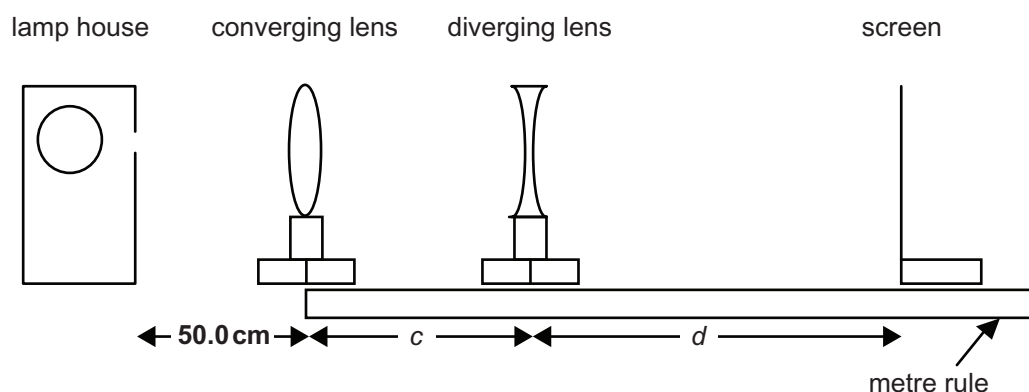

Fig. 1.2
- (b) A diverging lens is introduced. Alter the optical bench arrangement of **Fig. 1.1** so that you have the arrangement shown in **Fig. 1.2**. **The converging lens must be placed 50.0 cm from the illuminated object and not moved from this position.**